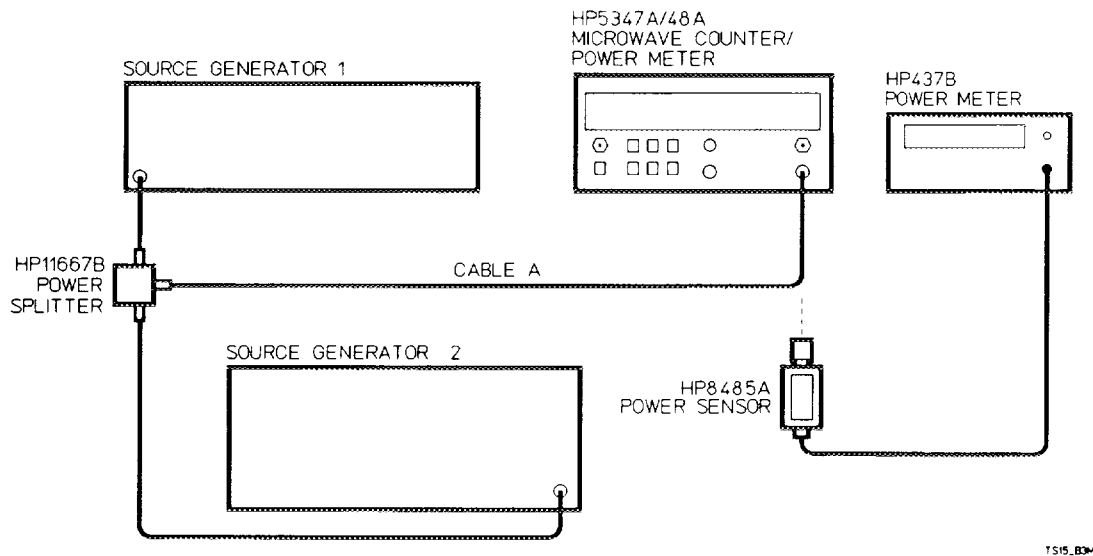

Figure 4-9. Automatic Amplitude Discrimination Test Setup
1. Connect the Equipment as shown in Figure 4-9.